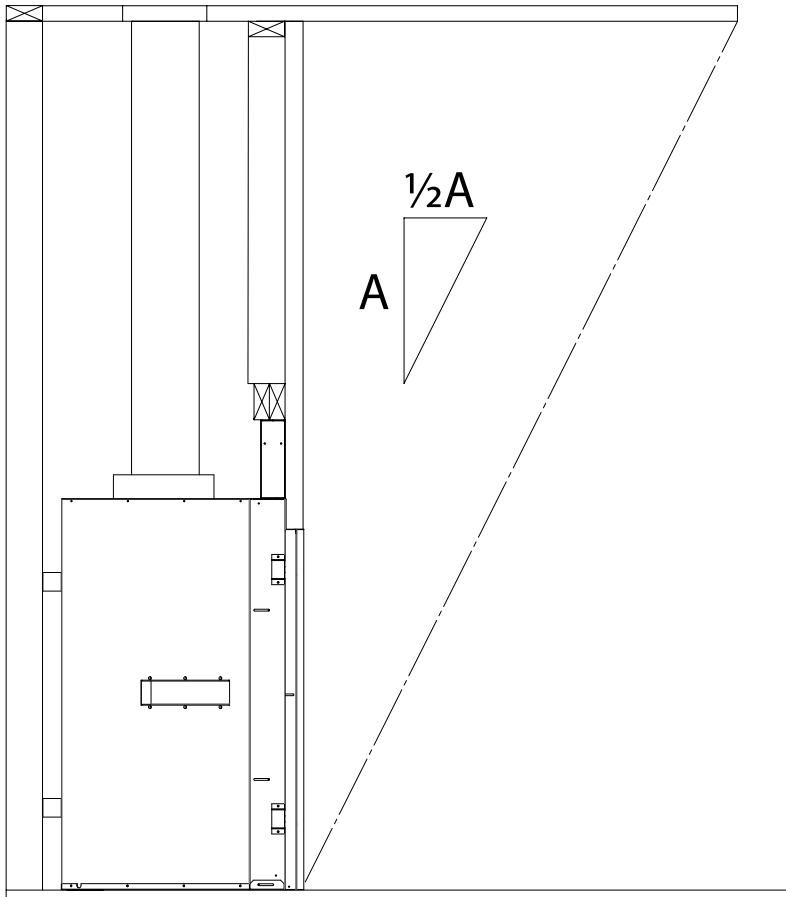

Figure 50: Overhang Depth Requirements
- The fireplace must be protected by an overhang with a depth that is at least equal to half of its height from the base of the fireplace, as shown in Figure 50.